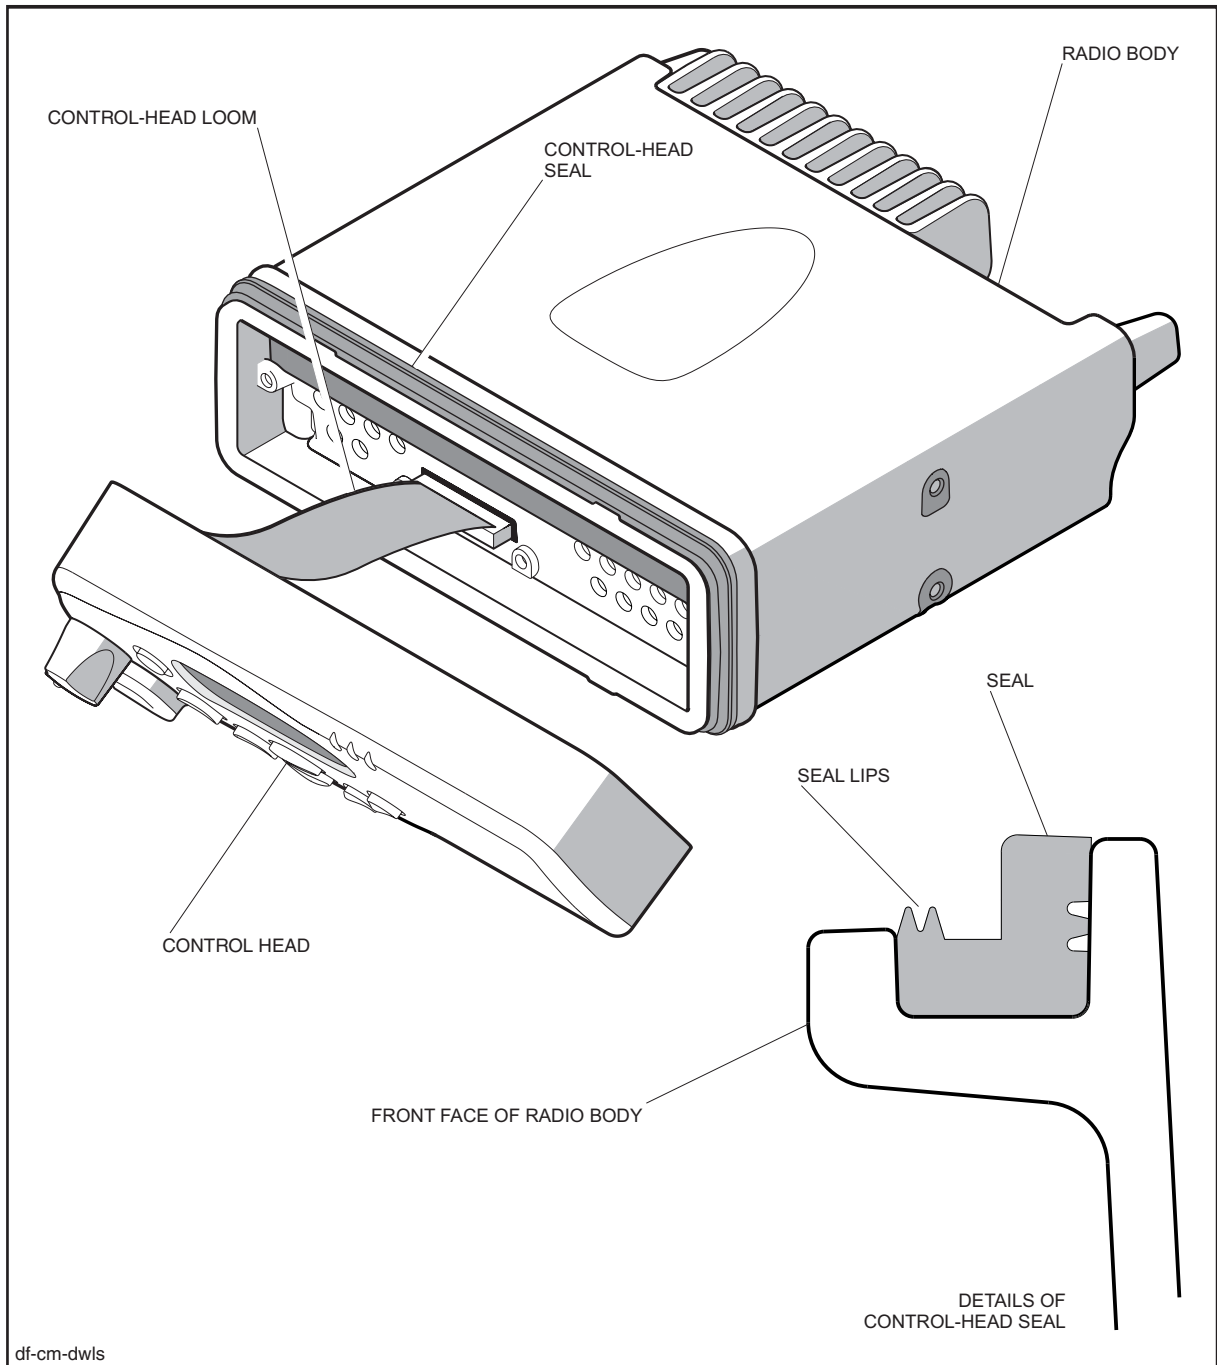

Figure 3.2 Details of the seal between the radio body and control head
5. After detaching the control head, disconnect the control-head loom at the connector on the radio body. Refer to Figure 3.2.
2. Inspect the control-head seal. Refer to Figure 3.2, which shows a cross-section of the seal. Check for any sign of deformation, cuts or tears. Pay particular attention to the two lips of the seal.